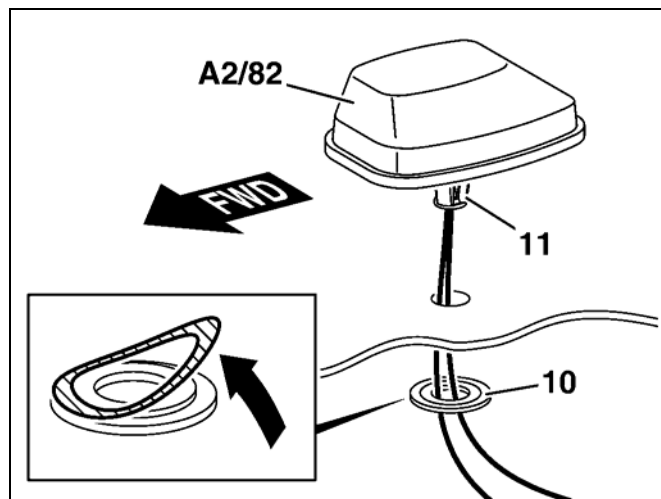

Figure 2
1. Affix large plastic washer (10, Figure 2 [part no. A220 827 0611]) to bottom of trunk lid:
- Remove backing paper (arrow) from washer (10).
- Insert washer (10) into drilled hole and affix adhesive side of washer to underside of trunk lid.
3. Feed antenna leads coming from the SDAR antenna (A2/82, Figure 2) through the washer (10).
4. Carefully insert the SDAR antenna sleeve (11, Figure 2) into the washer (10) until it snaps into place.
5. Align the SDAR antenna straight with the vertical side facing front and the angled side facing rear (A2/82, Figure 2).
6. Apply light downward pressure to the SDAR antenna (A2/82, Figure 2) to ensure the